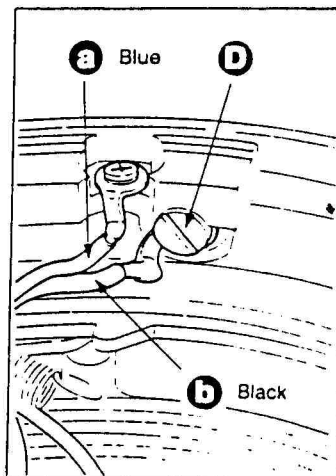

Fig. 4
2. Remove the screw 12, and take out the synchro cord (blue ①). (See Fig. 4.)
3. Loosen (→) screw ① of the synchro-socket and take out the synchro cord (black ②). (See Fig. 4.)